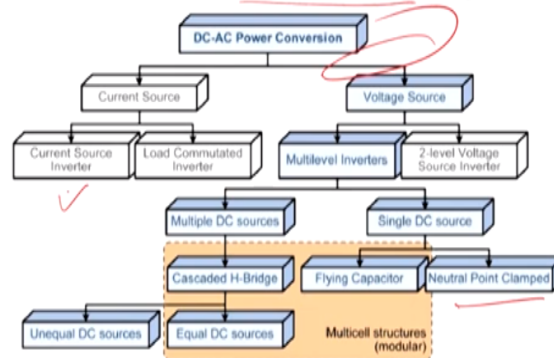

Fig.7: Multilevel converter classification
- Multilevel converters can be classified into two major groups based on independent dc source and their structure as illustrated in Fig.7.
So we can classify the multilevel converter topologies. Multilevel converter topology can be classified into two major group based on dependent DC sources and structures as illustrated in figure 7. So DC to AC power conversion, generally we go for this voltage source. So we may have a voltage source that is multilevel inverters and two level inverter considering the harmonic content and the device gating, multilevel converter is been preferred.